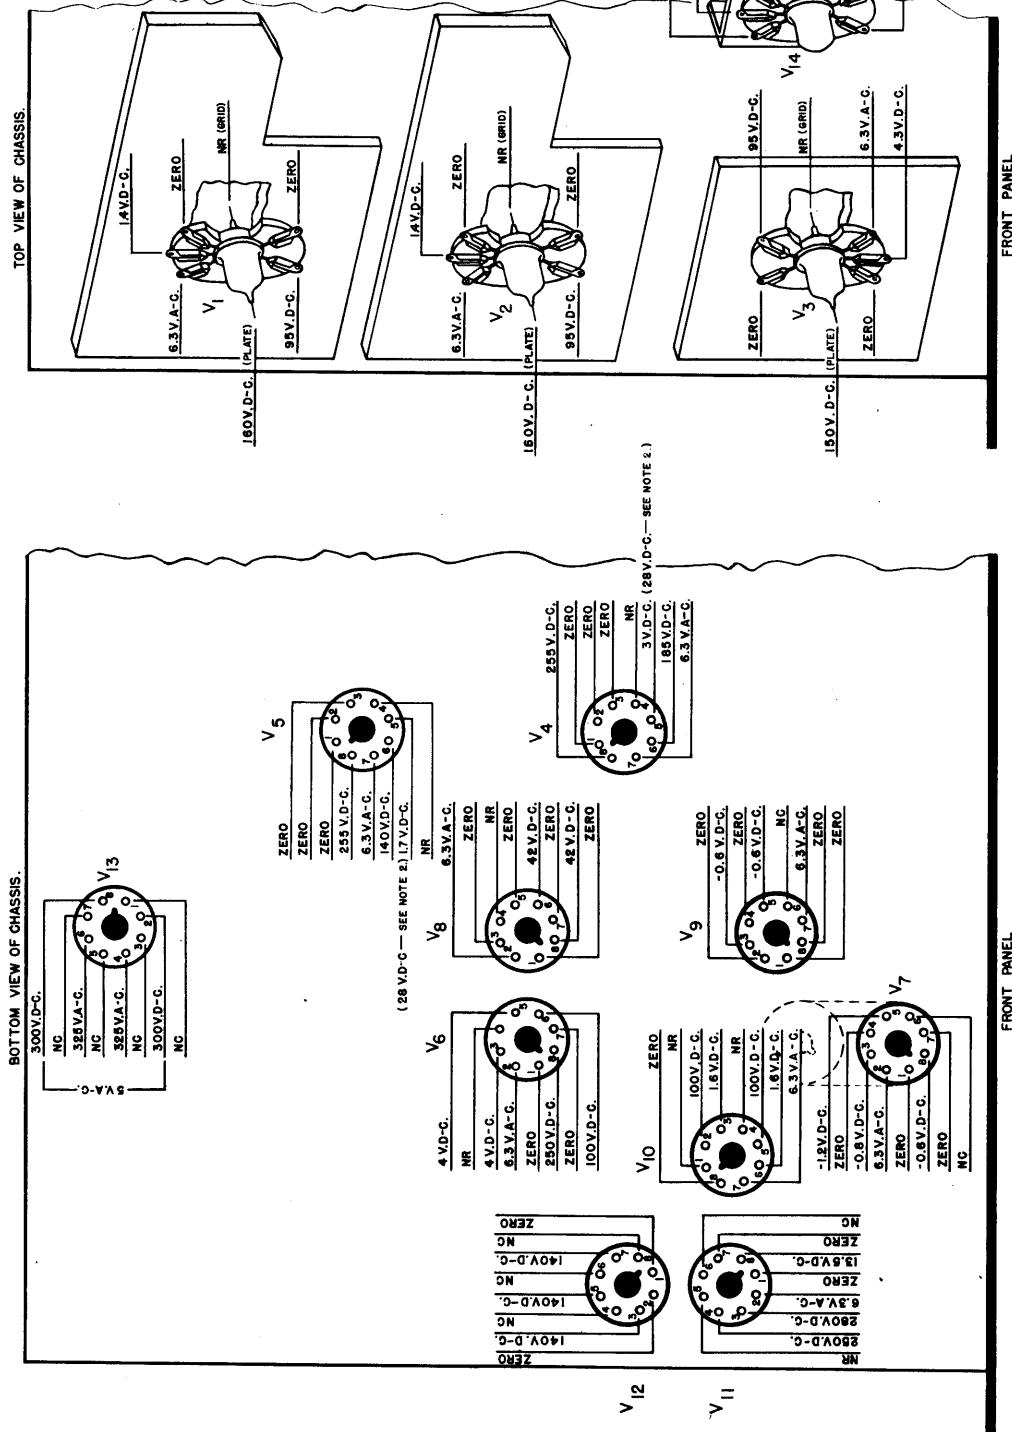

Figure 5-2. Radio Receiver Model S-37, voltage chart.
a. **Voltage Chart.** - Refer to Fig. 5-2. for the tube socket terminal voltages. Voltages shown are those between the terminal and ground (chassis) unless otherwise specified. To identify the tube socket connections, refer to Fig. 7-6. The readings were taken with an RCA Volt Ohmyst Junior analyzer using 20,000 ohm per volt sensitivity. To prepare the receiver for measurement, disconnect the antenna, connect a jumper between the antenna terminals A1, A2, and GND., disconnect the speaker and replace with a 5000-ohm 10-watt resistor across the 5000-ohm output terminals or a 500-ohm 10-watt resistor across the 500-ohm terminals, and set the controls as follows: